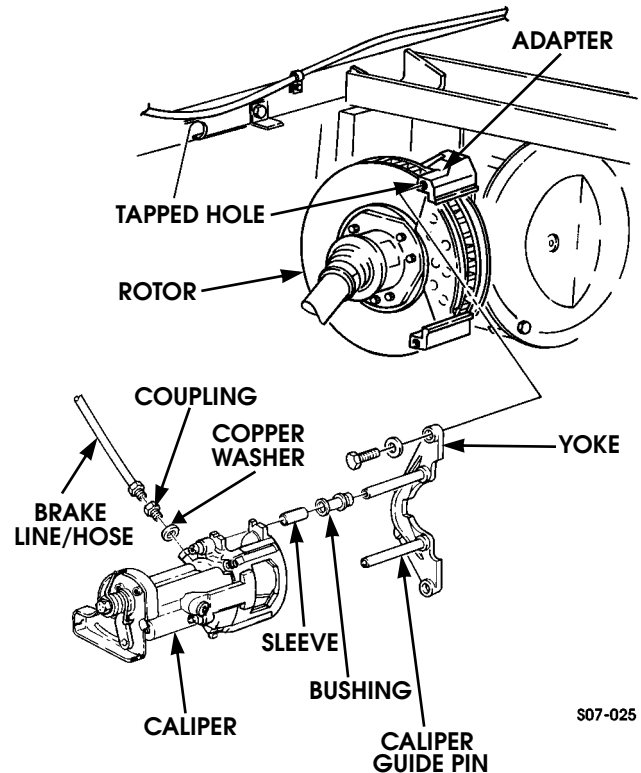

Figure 7-33: Rear Brake Components
2. Apply thread-locking compound to threads of caliper guide pins and install caliper guide pins in yoke. Tighten caliper guide pins to 30 lb-ft (41 N•m) (Figure 7-33).